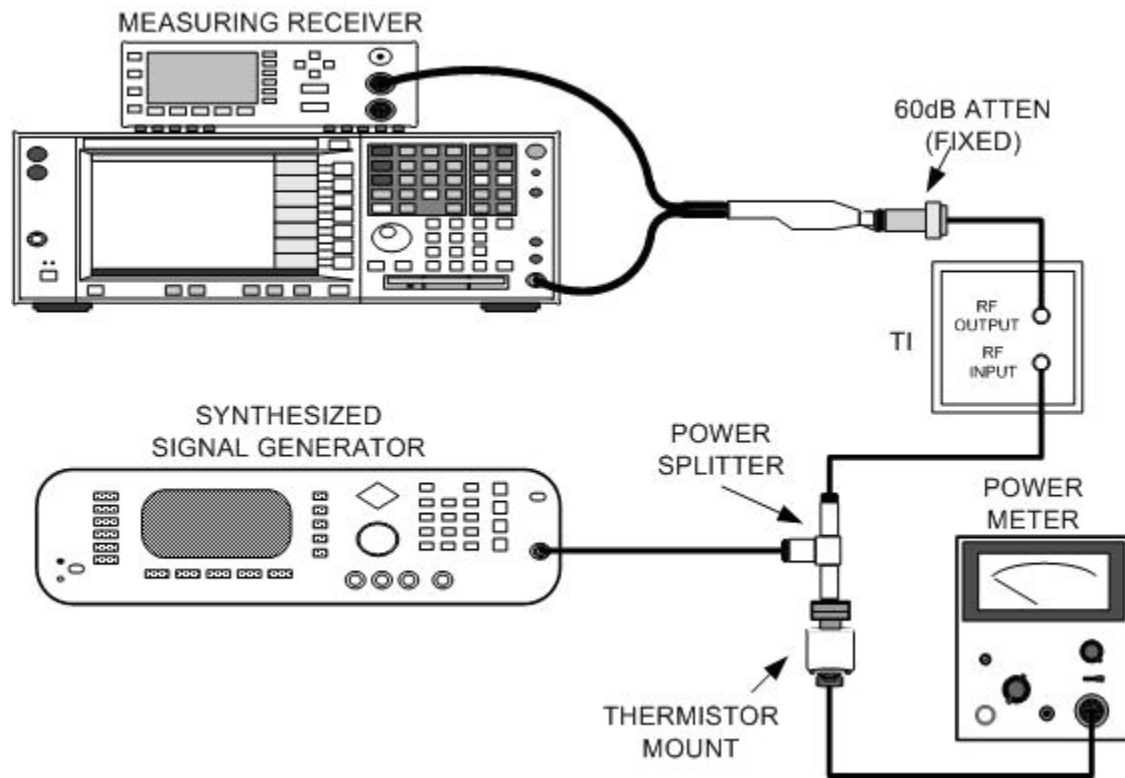

Figure 2. Unleveled output power gain - equipment setup.
- (1) Connect equipment as shown in figure 2.
- (2) Adjust synthesized signal generator level controls for a -5 dBm indication on power meter.
- (3) Configure measuring receiver to measure power. Indication will be equal to or greater than 15 dB.
- (4) Adjust synthesized signal generator frequency controls for a display of first test frequency listed in table 3.